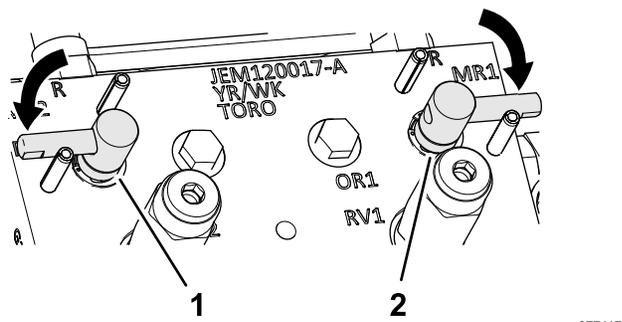

Figure 107
3. Move the backlap levers to the F (mow) position (Figure 107).